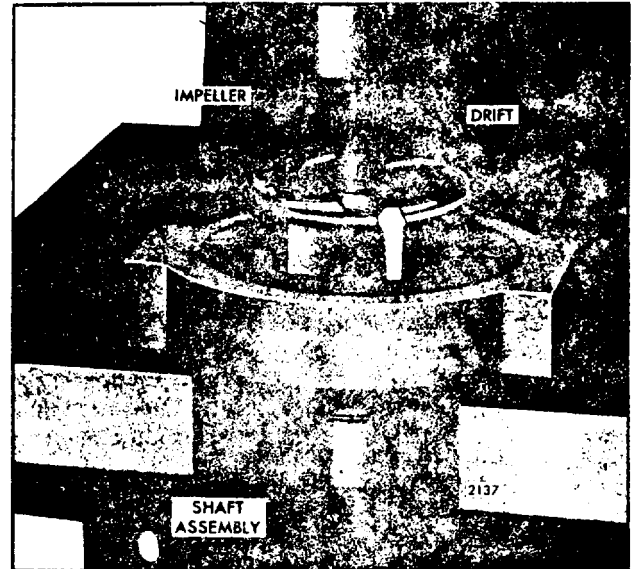

Fig. 4. - Removing Shaft form Impeller with Tools J 8329 and J 358-1
4. Press the end of the shaft out of the impeller as shown in Fig. 4, using plates J 8329 and holder J 3581.